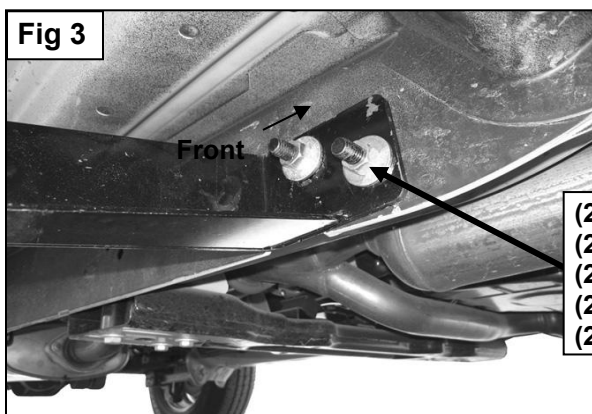

Fig 3
- Place the passenger side Front Mounting Bracket over the (2) Bolt Plates. Secure the front Mounting Bracket to the Bolt Plates using the included (2) M12 Flat Washers, (2) M12 Lock Washers and (2) M12 Hex Nuts, **(Figure 3)**. Snug but do not tighten at this time.